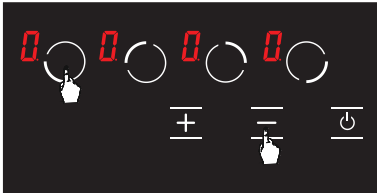

Figure 21
2. Press front left hob selection key (**0**) and minus key (**-**) simultaneously. (see Fig. 21) You shall hear a short warning signal at this time. Then, remove your fingers from the stove control panel.